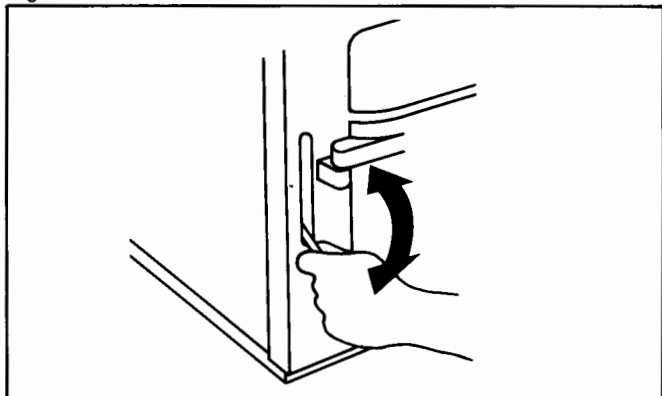
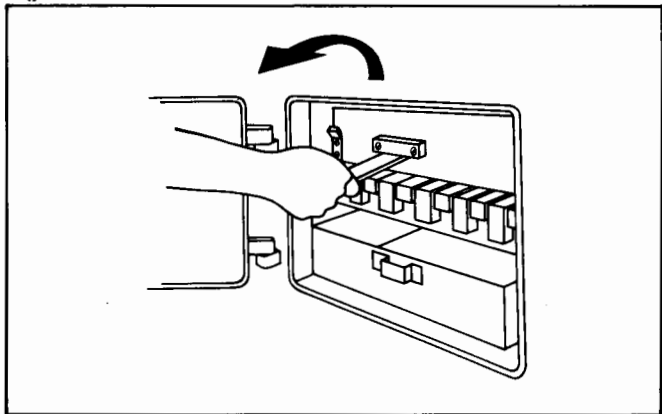

Fig. 3
Fig. 5
- De-ash (Fig. 3) and remove clinker door (Fig. 5). Insert flat bayonet type gas poker on top of bottomgrate bars.
To de-ash, riddle the grate by agitating the riddling handle in an up and down manner about 20 times to free the grate of ash. See Fig. 3.
Allow the fire to burn out and then open the ashpit door. Lift off the clinker door (See Fig. 5) and insert hooked poker to draw out any offending accumulation. Replace clinker door after use.